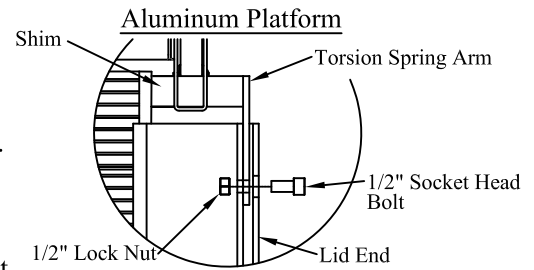

Figure 9: Torsion spring arm installation.
4. Determine how to attach the passenger side torsion spring arm to the platform for your application using (Figures 9 and 10).
6. Install the 1/2" bolt and lock nut as shown in (Figure 9 or 10).